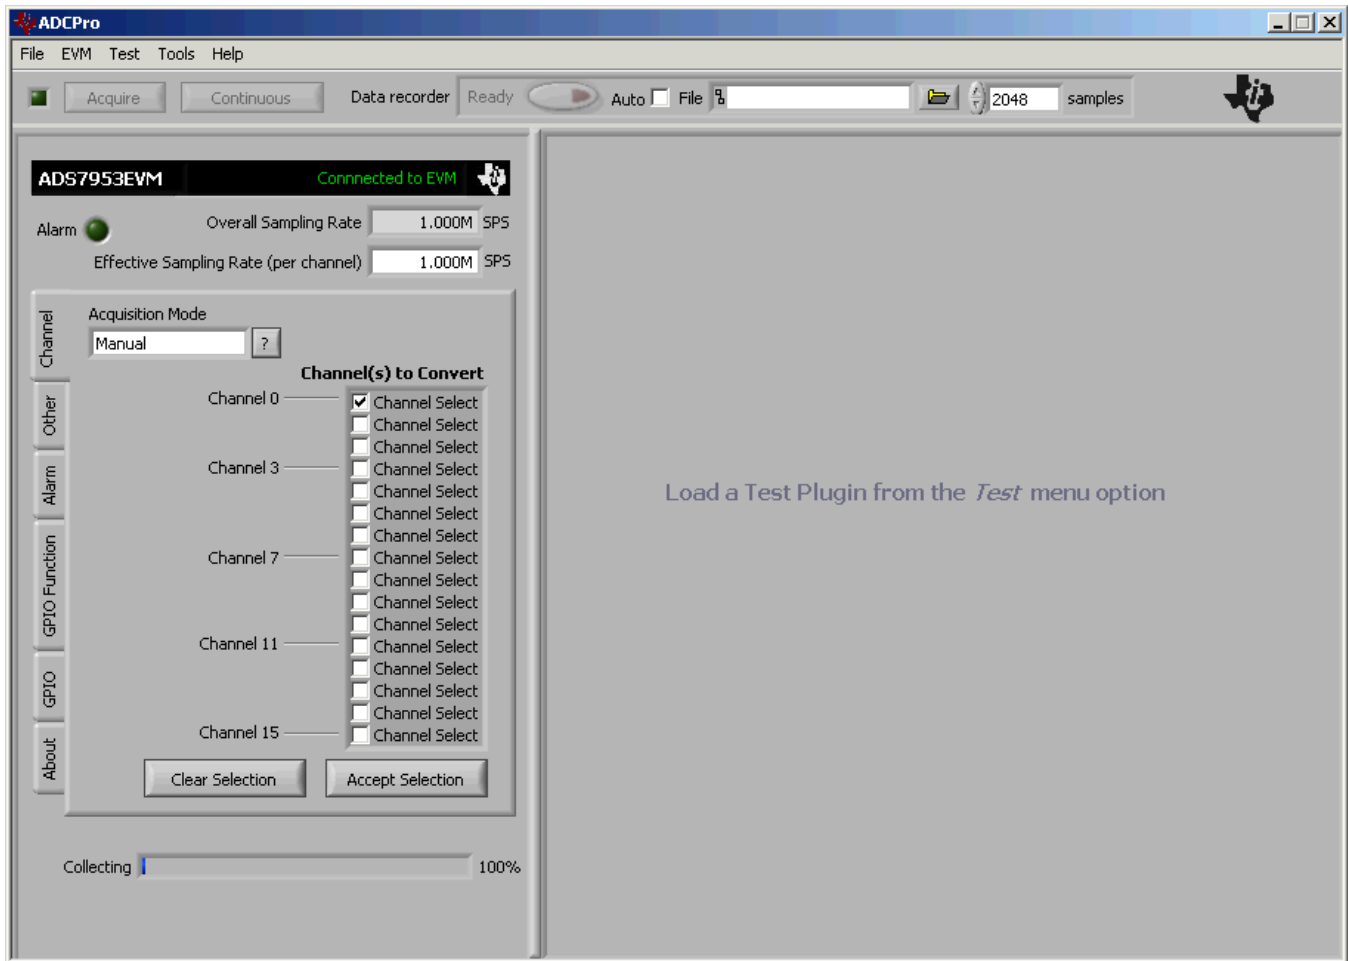

Figure 12. ADS7953EVM-PDK Plug-In Display Window
1. Select *ADS7953EVM* from the EVM drop-down menu. The ADS7953EVM-PDK plugin appears in the left pane, as shown in Figure 12.